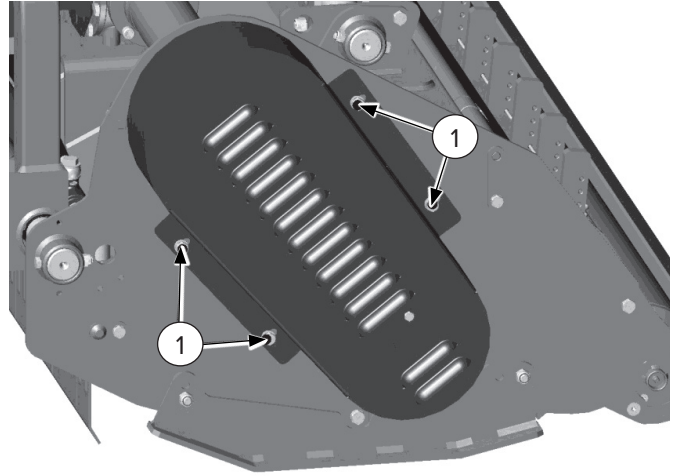

Figure 7
1. Remove the safety cover of the belts by loosening the four (4) bolts [Figure 7, Item 1] that secure it to the frame.